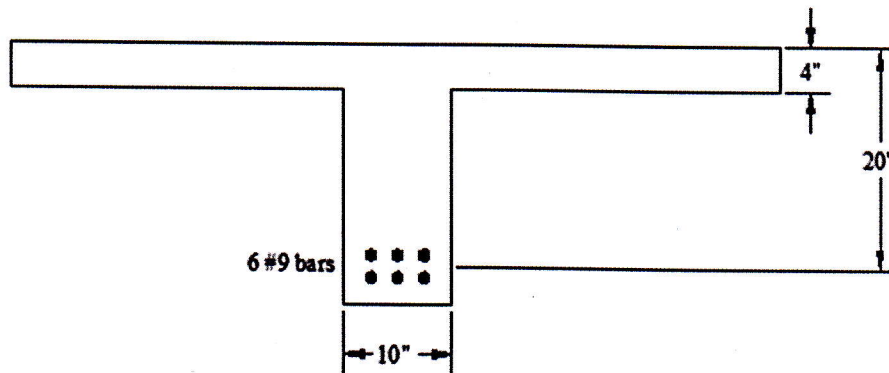

Figure 6
- 7.(a) What is the minimum length of lap for column splice as per ACI code/BNBC? (2)
- (b) Calculate the development length by USD method for 16 mm uncoated bar as top bar and 25 mm uncoated bar as bottom bar. Use:  $f'_c = 3$  ksi,  $f_y = 60$  ksi and assume appropriate value for any missing data. (3)
- (c) Determine the Nominal moment capacity ( $M_n$ ) of the T-beam section shown in Figure 6. (5)